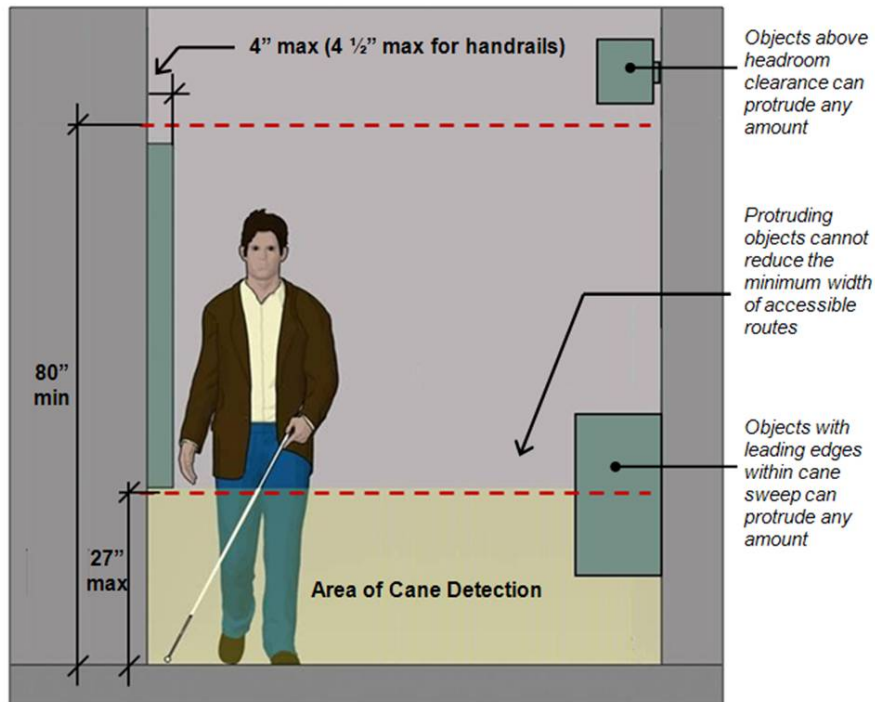

Figure 1
1. Protruding objects/Cane detection: To prevent hazards to people with vision impairments, the standards limit the projection of objects into circulation paths. These requirements apply to all circulation paths and are not limited to accessible routes. Circulation paths include interior and exterior walks, paths, hallways, courtyards, elevators, platform lifts, ramps, stairways, and landings. The Cornell Standards require a 24” maximum for cane sweep distances. (See Figure 1)